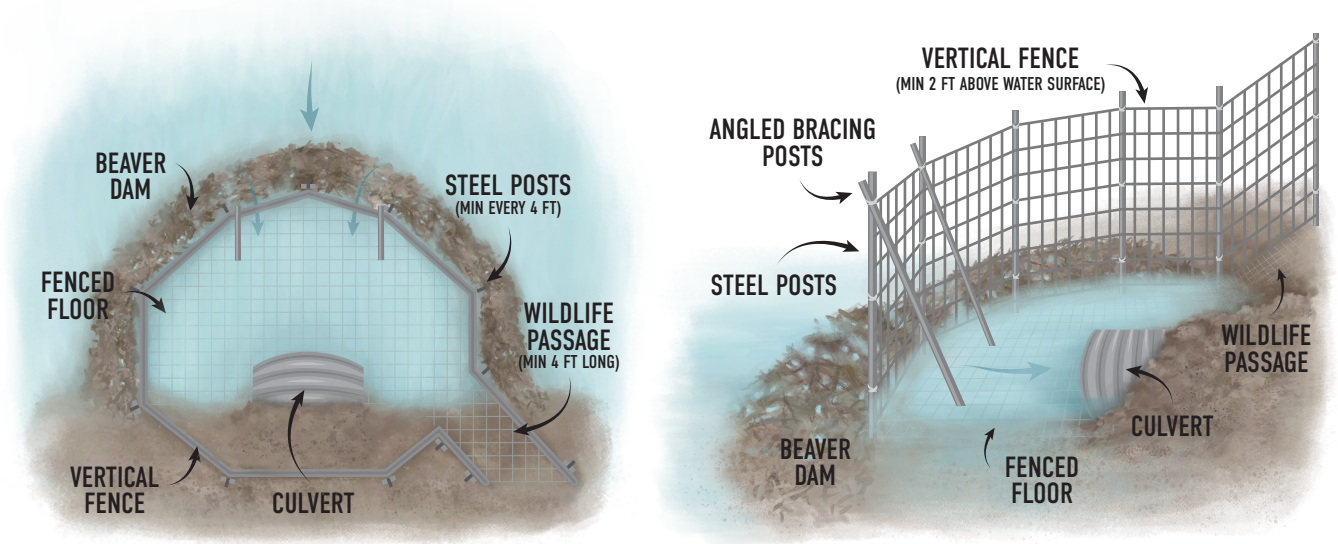
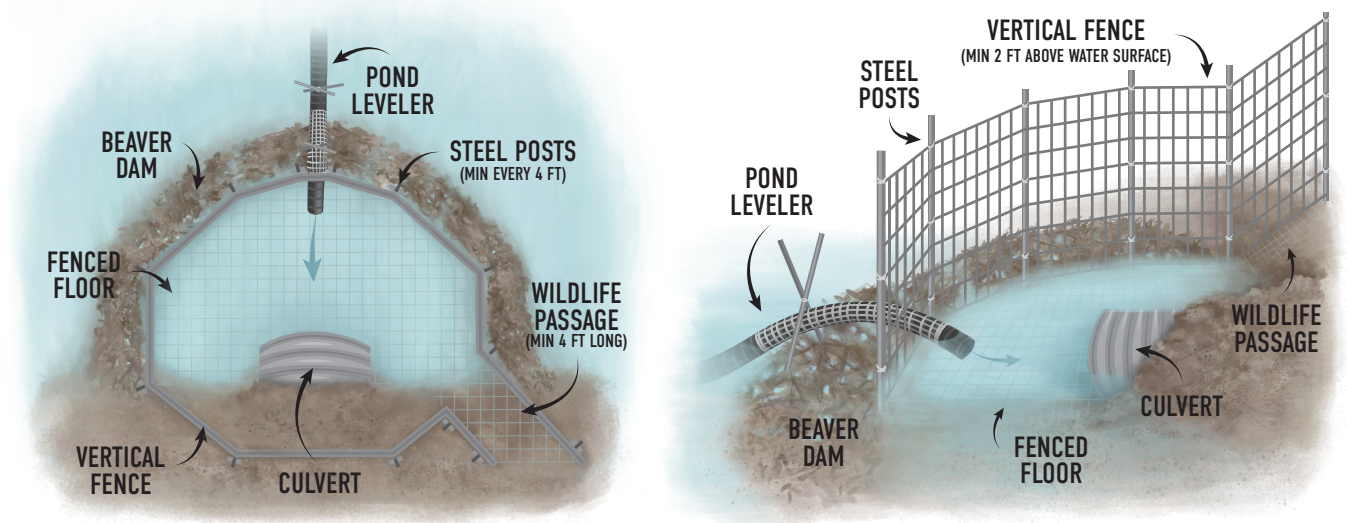

Figure 9. Standard anchor fence shown from above (left) and side (right).
Figure 10. The combination of an anchor fence and pond leveler to create a pipe and fence culvert protection system shown from above (left) and side (right).
An **anchor fence** (Figure 9) directly protects the culvert's mouth with a semi-circle of fencing. Beaver damming activity is still allowed at the culvert mouth, but the location of the dam is controlled by the fence structure. By relocating the damming activity upstream, flow through the culvert is unimpeded. This design can be modified to accommodate a pond leveler through the anchor fence if the elevation or extent of the upstream beaver pond must be limited. The modification of adding a pond leveler to an anchor fence is often called a **pipe and fence** culvert protector (Figure 10).
9. Stabilize with heavy-duty steel posts at least every 4 feet and firmly driven into the streambed. Angle bracing the upright posts with additional steel posts is recommended for streams with heavy flows (see bracing in Figure 9). Untreated 2" by 6" timber can be used for additional bracing around the entire top of the fence. Use heavy gauge wood staples to secure the wire mesh to the wood and heavy duty lag bolts to attach the cross bracing at the corners.
1. Construct a half-circle of fencing to protect the culvert or spillway, with the top of the arc facing upstream (Figure 9). Allow for 6-8 feet of radial space between the fencing and the culvert.
8. Construct one opening in the exclusion fence perimeter adjacent to one side of the culvert mouth that extends to the dry bank with side walls for a minimum of 4' long across dry ground. Extend a floor in this terrestrial wildlife passage from the floor of the flow device to the end of the passageway (Figure 9) and infill with small rocks and other on-site materials to provide solid footing. Build this passage minimum of 16" wide and minimize exposed sharp wire ends for both wildlife and human safety.
12. Install the overflow pipe through the fencing of the anchor fence (Figure 10) at the desired maximum dam crest elevation and secure in place with corrosion-resistant wire (minimum of 9-gauge or heavier) and heavy-duty steel posts. Products with zinc or copper should be avoided as these are toxic to aquatic life.